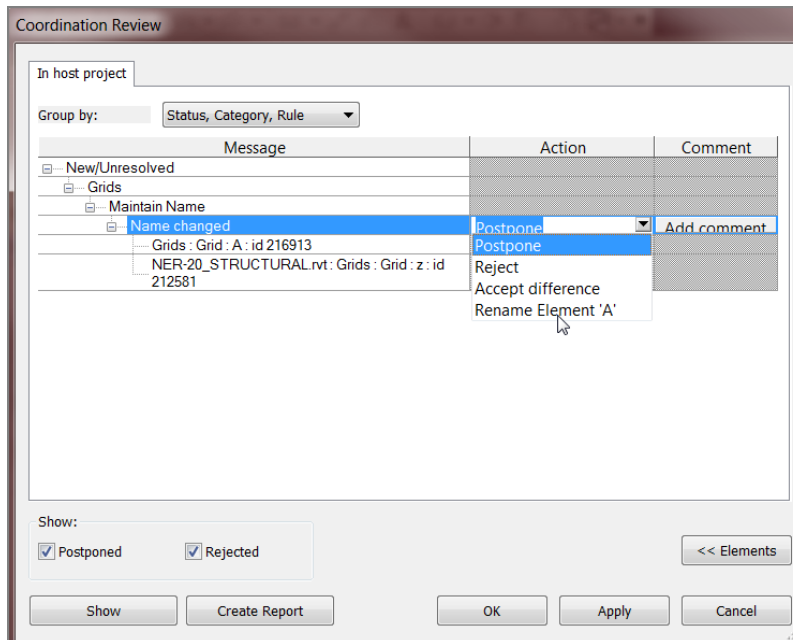

FIGURE 20.13: Telling Revit to rename the grid automatically
10. In the Coordination Review dialog box, expand the Grids category (under the New/Unresolved category), as shown in Figure 20.13.